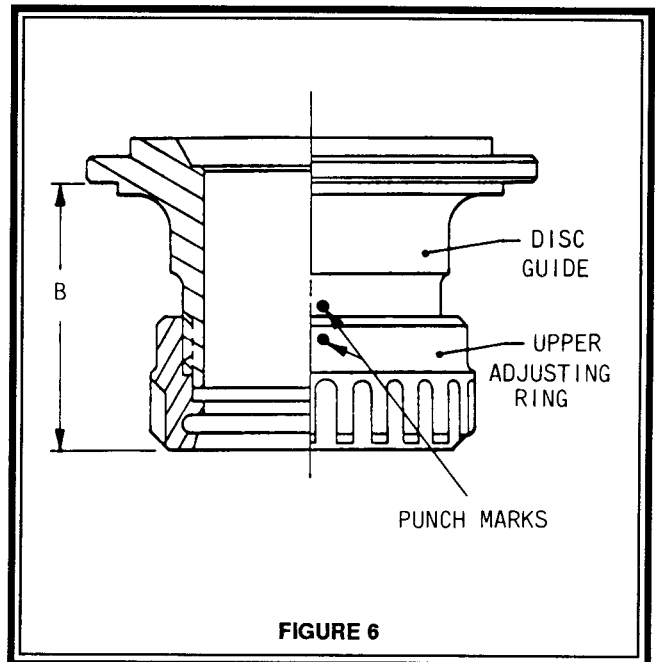

FIGURE 6
12. In order that the blowdown of the valve will be unchanged, the position of the upper adjusting ring should be marked for reassembly. Make punch marks in an axial line on the tooth of the upper adjusting ring and the outside barrel of the guide. Then measure the height of the guide and upper adjusting ring assembly as shown in Figure 6, Dimension B, and record this information.